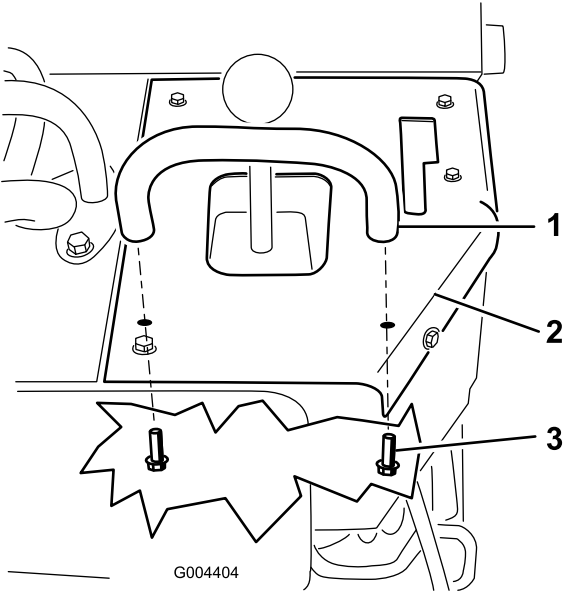

Figure 9
- 3. Secure the reference bar to the control panel using 2 bolts (5/16 x 3/4 inch), installing them from inside the machine (Figure 9).